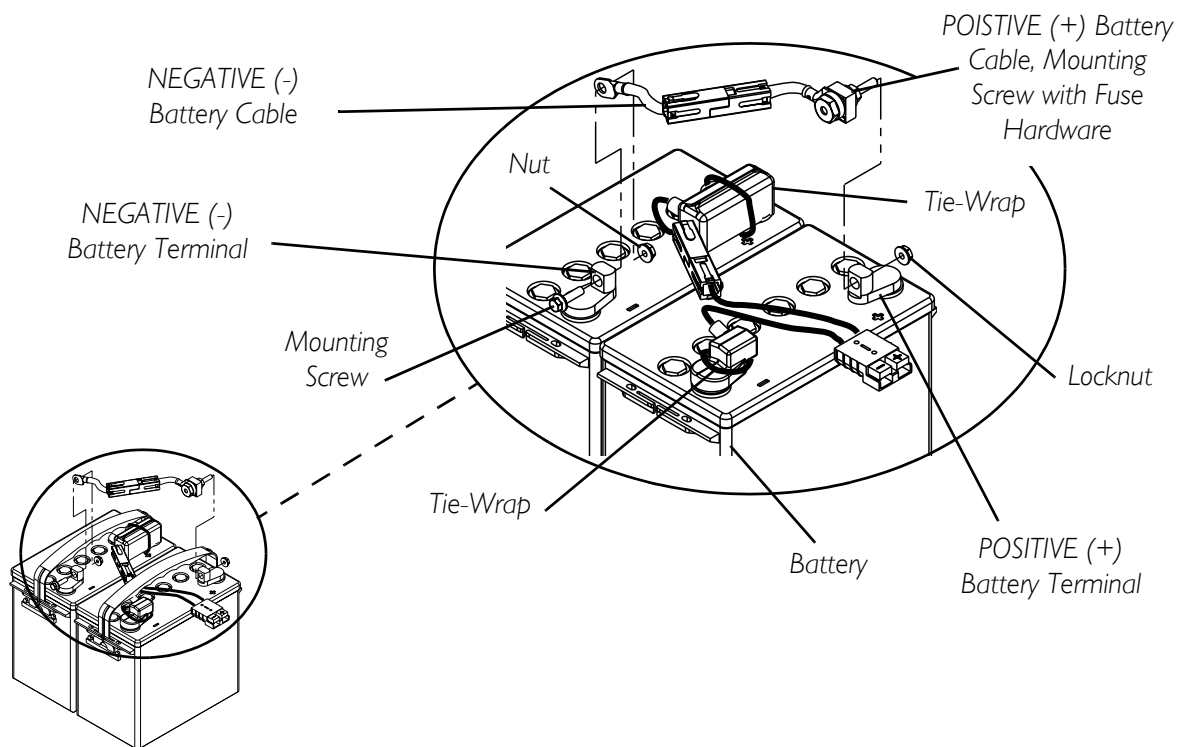

FIGURE 11.3 - CONNECTING/DISCONNECTING THE BATTERY WIRING HARNESS
When connecting the battery cables to the battery(ies), the battery cable(s) **MUST** be connected to the battery terminal(s)/post(s) as shown in **FIGURE 11.3** otherwise damage to the battery may result.
NOTE: For this procedure, refer to FIGURE 11.3.
2. Using the mounting screws and nuts, secure the battery cables to the battery terminals as shown in FIGURE 11.3 in the following order:
6. Using new tie-wraps, secure the terminal covers to the battery terminals as shown in FIGURE 11.3.
3. Remove the mounting screws and nuts that secure the battery cables to the battery terminals as shown in FIGURE 11.3 in the following order: